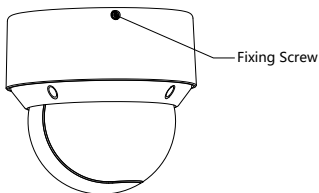

Figure 2-59 Tighten the Fixing Screw
3. Align the cable holes of the base plate to the cable holes of the in-ceiling bracket and then fix the base plate onto the bracket with the four screws in the package (supplied), as shown in Figure 2-59.